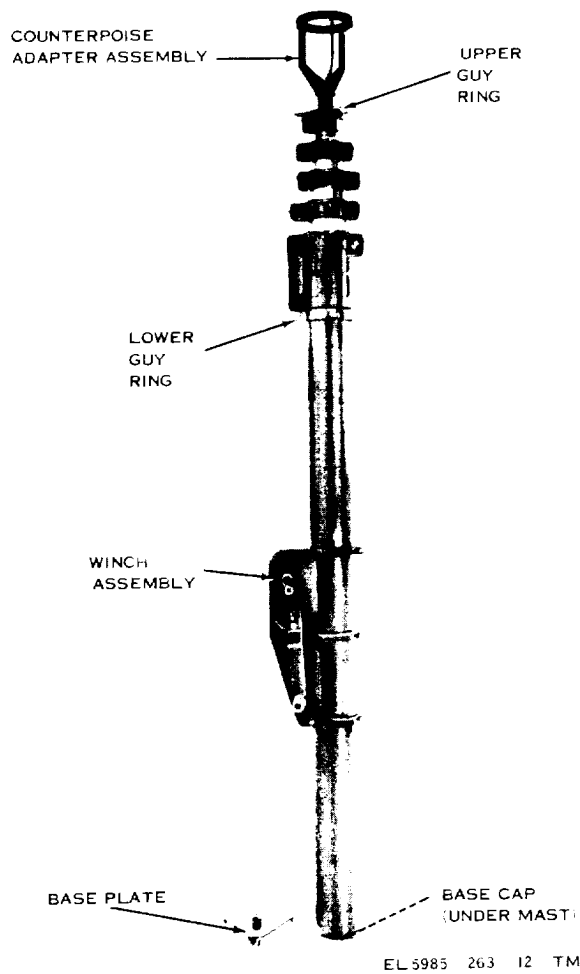

Figure 1-1. Mast AB-903/G, less ground-mounting components.
a. This manual describes Mast AB-903/G (fig. 1-1) and covers its installation, operation, direct and general support, and depot maintenance.
b. Figure 1-1 illustrates the general arrangement of the mast on the ground.
a. Mast AB-903/G (figs. 1-1, 1-2, and 1-3) is a cable-driven, lightweight, telescope mast assembly. A crank handle attached to the winch assembly is used to raise or lower the mast. The